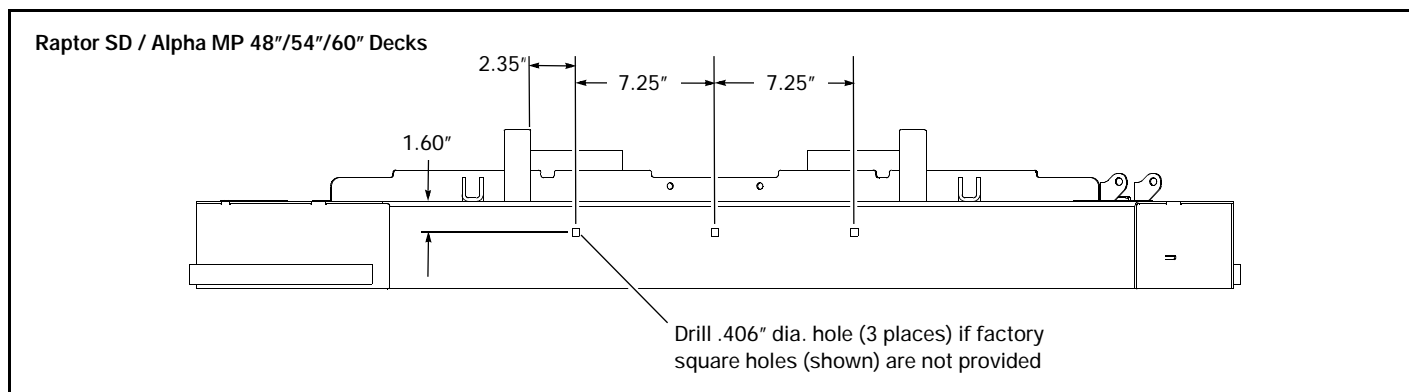
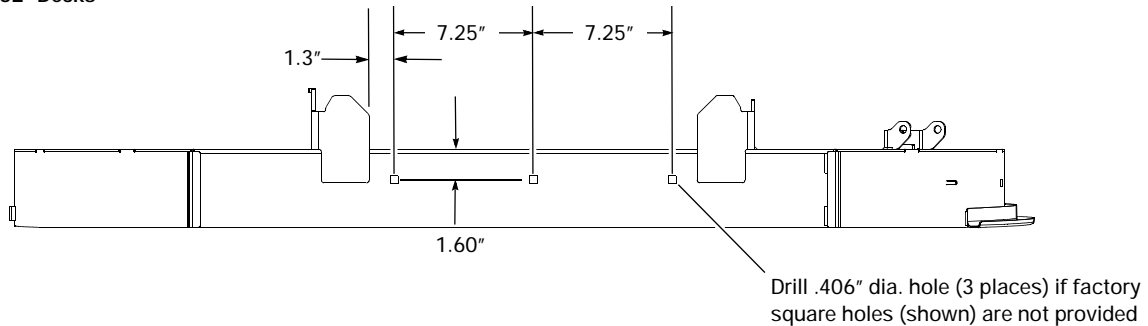

FIG. 1
FIG. 2
3. After removing the deck, locate and drill three .406" diameter holes. Fig. 1 or Fig. 2